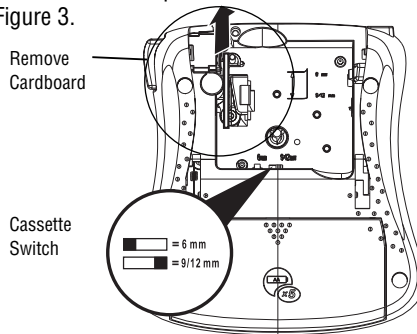

Figure 3
- Remove the protective cardboard insert from between the print head and roller. See Figure 3.
2. Set the cassette switch for the size of the tape cassette that you are inserting. See Figure 3. A notch in the cassette will fit over the switch when it is in the correct position.